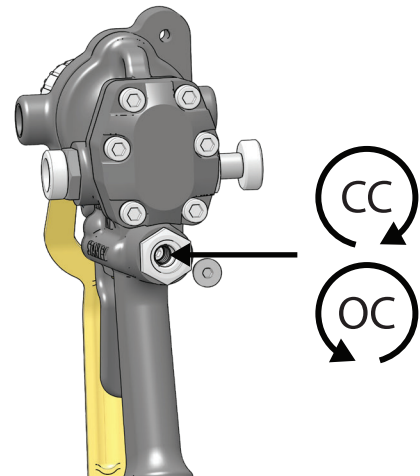

Figure 3 - Hydraulic Circuit Selection
OPEN-CENTER (OC) OR CLOSED-CENTER (CC) OPERATION - FIG. 3